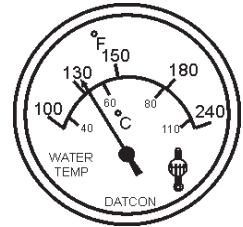

Figure 37. Coolant Temperature Gauge
9. The **coolant temperature gauge** (Figure 37) will indicate the coolant temperature. Under normal operating conditions the coolant temperature should be between 180~221 °F (82~105 °C), **Green Zone**.